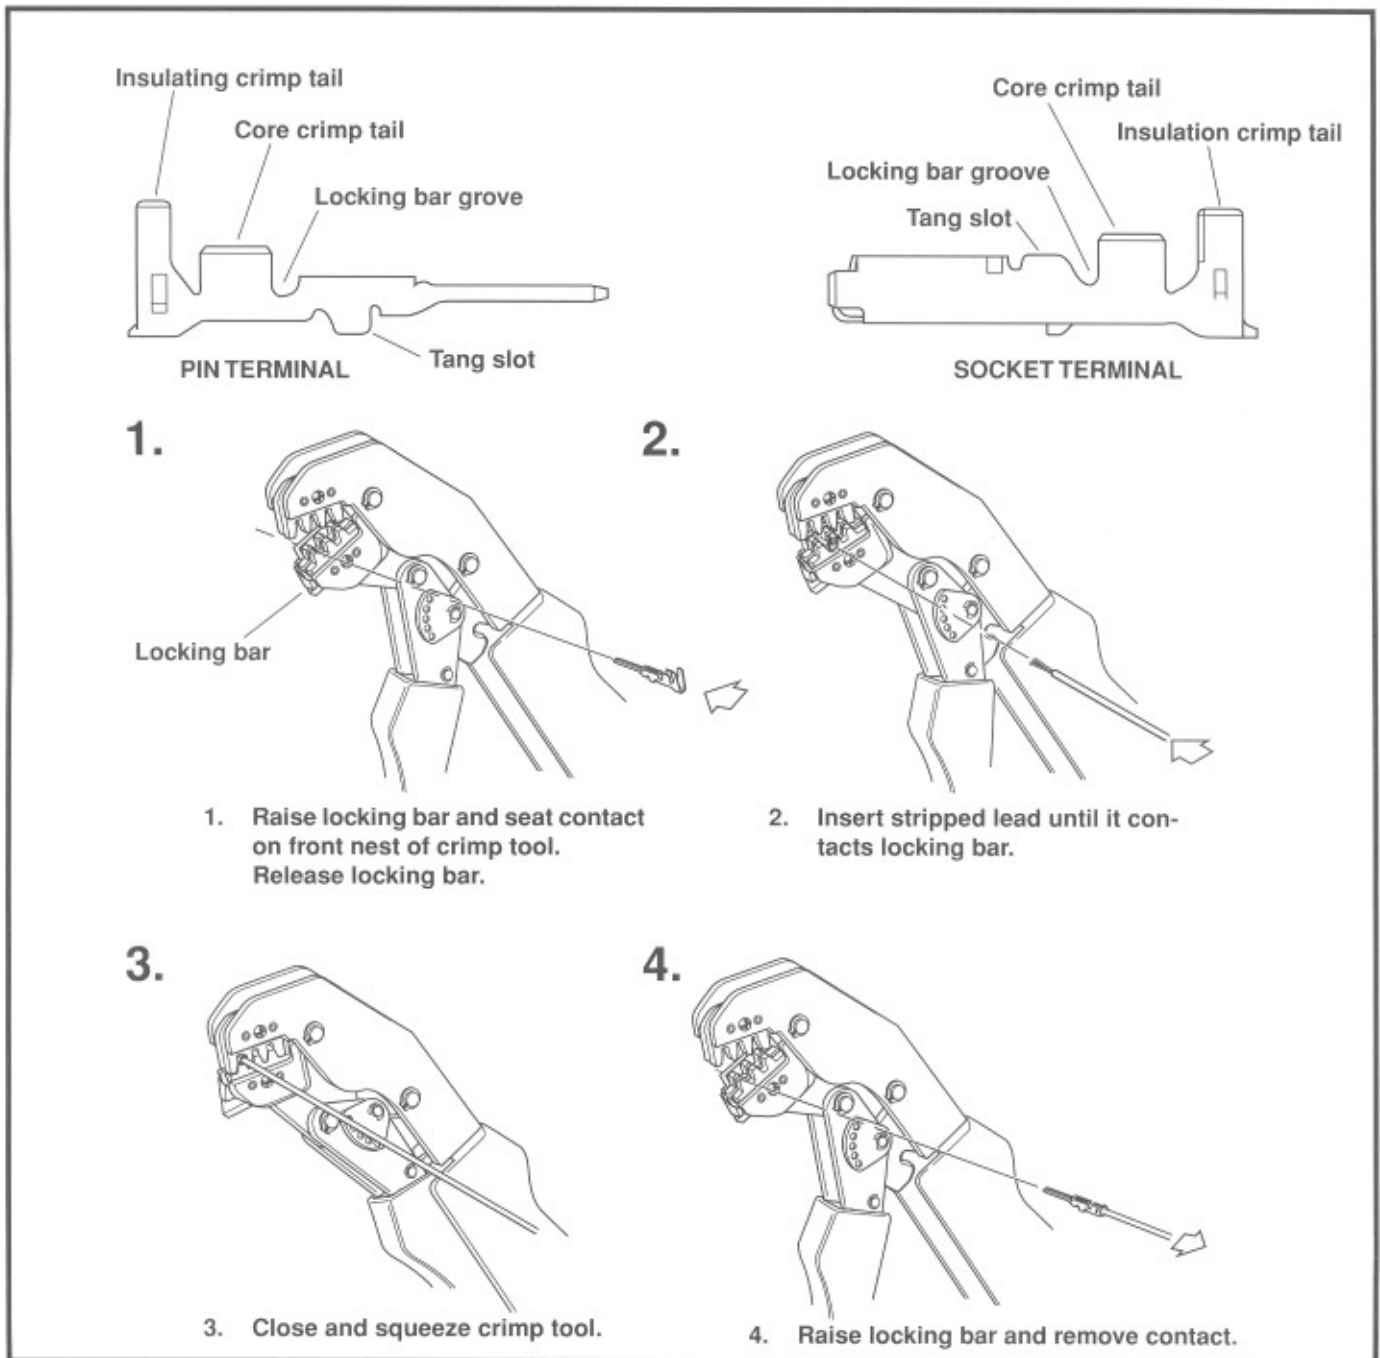

Figure 7-105. Amp Multilock Crimping Procedure
2. Raise locking bar by pushing up on bottom flange. With the crimp tails facing upward, insert contact (socket/pin) through locking bar, so that the closed side of the contact rests on the front nest (concave split level area of the crimp tool). See Figure 7-105.